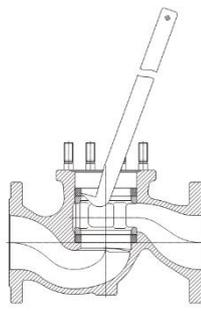

Figure 2
- » Pull out the washer (Pos. 17) and the bonnet valve ring (Pos. 14) by means of a ring extractor hook (see Fig. 2)
- » Remove the washer (Pos. 17) and upper valve ring (Pos. 14) by means of a ring extractor hook (see Fig. 2)